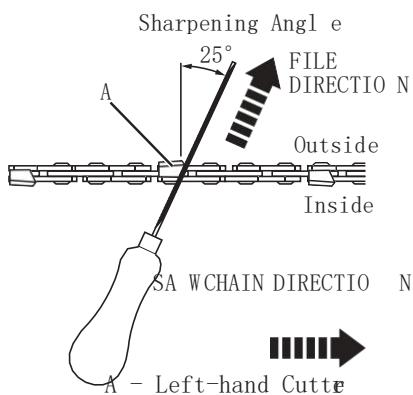

Fig. 19
3. File at an angle perpendicular to the bar, and at an angle of 25° to the direction of travel (Fig. 19).